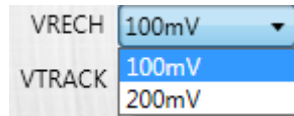

Figure 13: V_{RECH} Setting
- Set the battery auto-recharge voltage to V_{BATT_REG} minus the value selected in the drop-down menu (see Figure 13). This voltage can be set to 100mV or 200mV, and the default value is 100mV.